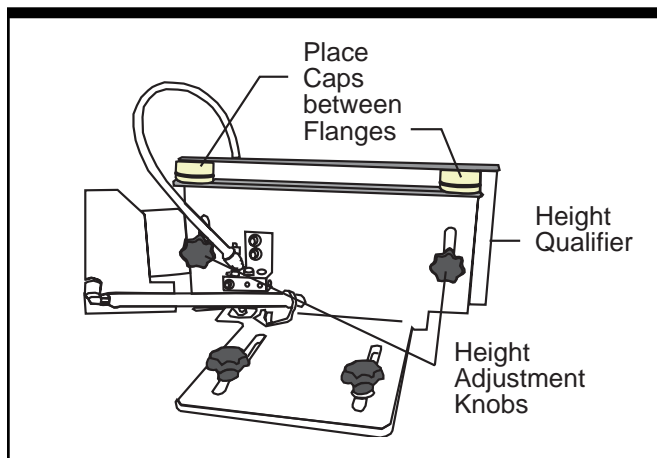

Figure 3-4. Height Adjustment
**Step 4—Adjust Air Proximity Vertical and Horizontal Position.** When caps enter the second stage of tooling - or the orientation qualifier area, the air prox will qualify the part to a cavity up position. The air prox is attached to the tooling support wall. To adjust the wall loosen the hand knobs on the back side of the wall, and move it up or down, in or out, based on the cap size being run. Place a cap between two flanges (see *Figure 3-4* following page), leaving an  $\frac{1}{8}$ " gap between the top of the cap and the top flange, and retighten the hand knobs. With regards to the reject airjet, place a cap beneath the airjet nozzle and adjust the nozzle so that the vertical tip is no greater than .100" above the surface of the cap. Adjust the airjet horizontally so that the airflow hits the surface of the cap as close to the centerline as possible.